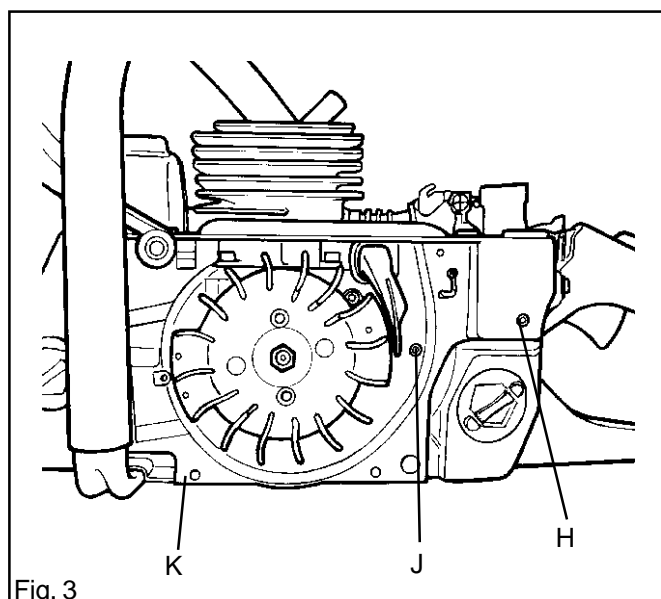

Fig. 3
7. Remove the bolts (H, J and K) from the flywheel side. See fig. 3.